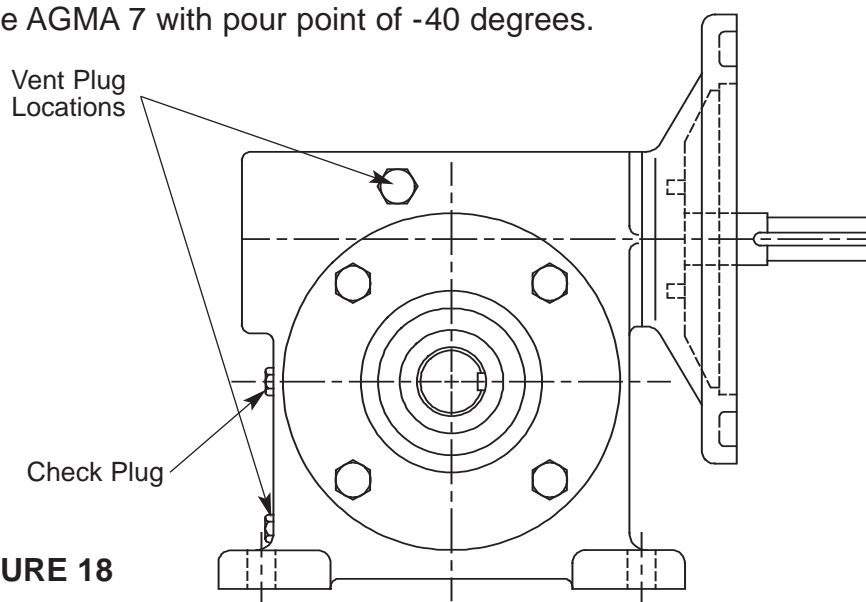

FIGURE 18
- Install vent plug as shown in Figure 18.